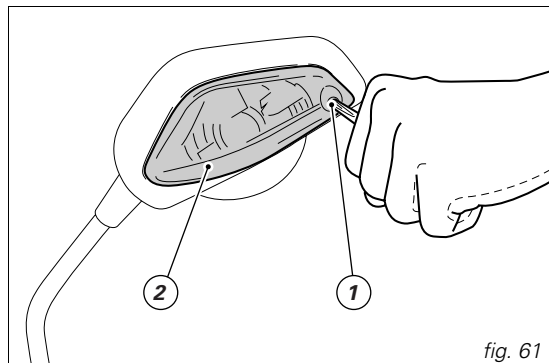

fig. 61
To replace the bulb, unscrew the screw (1) and remove the lens (2) of the indicator from the mirror (fig. 61).